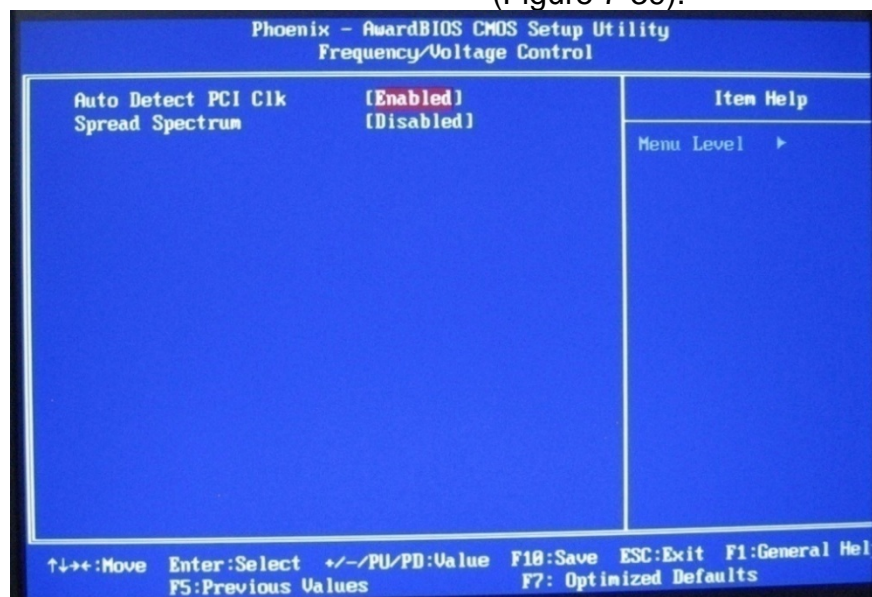

Figure 7-39 Frequency Voltage Control
29. On the **Frequency Voltage Control** screen. **No Change** and Press **Enter**. (Figure 7-39).